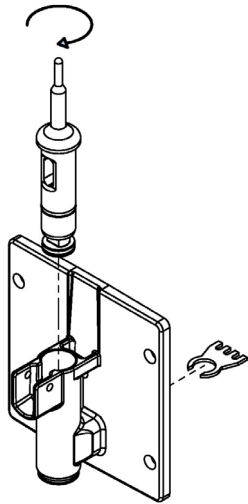

Figure 3-5 Spigot & Ice Breaker Bar Removal
- I. Turn the spigot body until the ice breaker bar can be removed. Remove breaker bar (Refer to Figure 3-5).